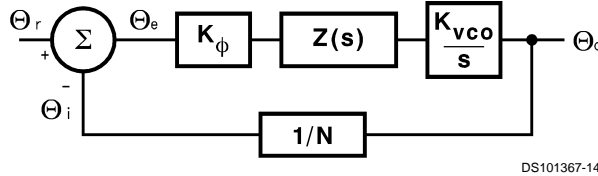
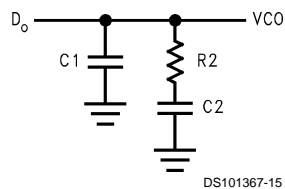

FIGURE 2. PLL Linear Model
FIGURE 3. Passive Loop Filter
A linear control system model of the phase feedback for a PLL in the locked state is shown in *Figure 2*. The open loop gain is the product of the phase comparator gain (K_ϕ), the VCO gain (K_{VCO}/s), and the loop filter gain $Z(s)$ divided by the gain of the feedback counter modulus (N). The passive loop filter configuration used is displayed in *Figure 3*, WHILE the complex impedance of the filter is given in equation 2.